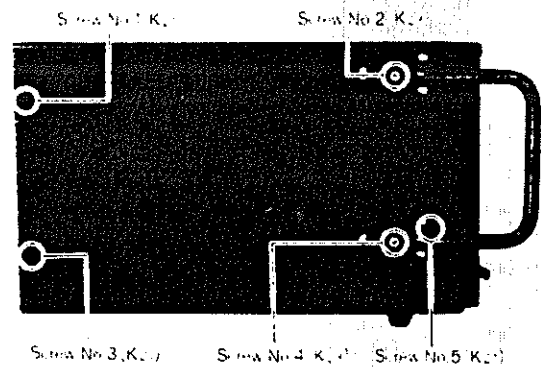

Fig. 3
3. Remove the five (5) screws (nos. 1~5) for the handle and cabinet cover, as shown in fig. 3.